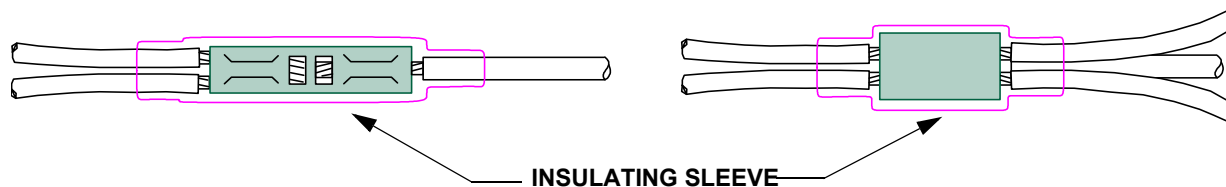

FIGURE 12 - INSULATION OF PERMANENT CRIMP SPLICES
- 5.7.1 Insulate all uninsulated splice connectors with heat shrinkable insulation sleeving according to PPS 10.16 (see Figure 12). Unless as specified below, use M23053/8 heat shrinkable insulation sleeving approximately double the length of the splice. Clear heat shrinkable insulation sleeving shall be used for visual inspection purposes.